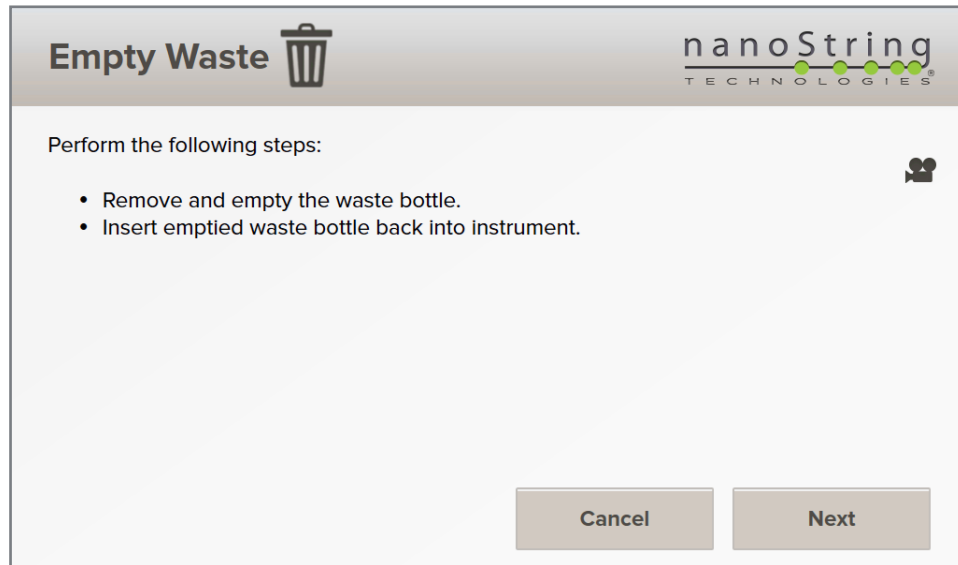

FIGURE 7.11 The Empty Waste screen.
11. The Empty Waste screen will appear next with instructions to empty the waste bottle (FIGURE 7.11).